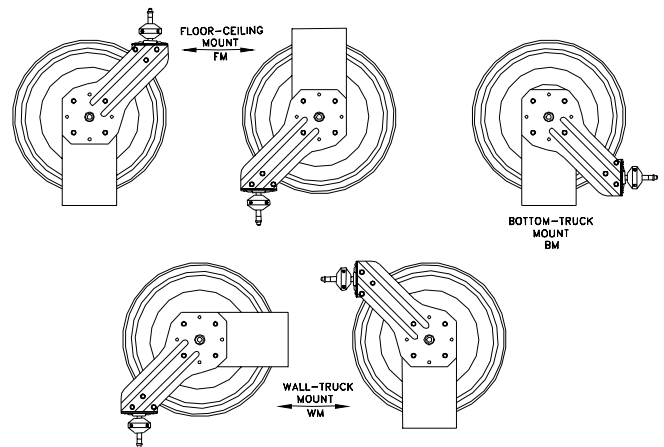

Fig. 1
2. The reel is supplied with a hose guide roller bracket. The bracket position may be changed depending on the reel mounting position. Figure 1 shows "Typical Mounting Positions". If bracket position needs to be changed, do the following: